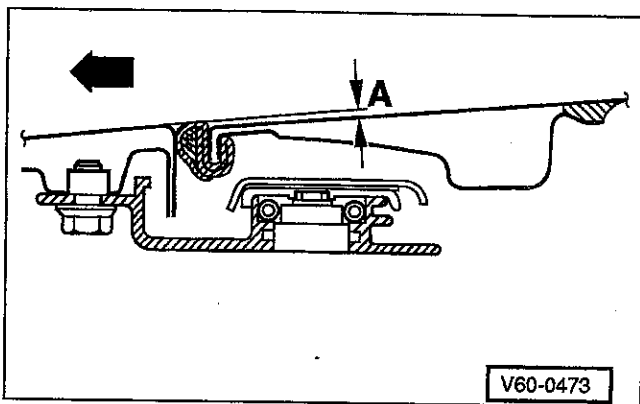

Fig. 5. Front of sunroof panel should be 1mm (dimension A) lower than body (roof). Arrow indicates direction of travel.
5. Carry out front and rear height adjustment as shown in Fig. 5 and 6.